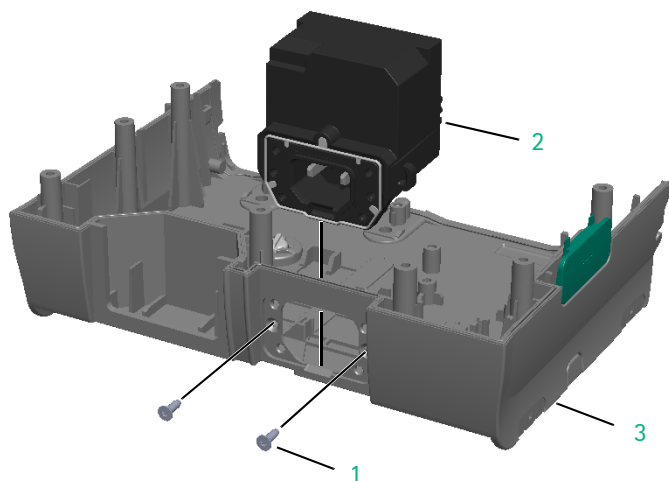

Fig. 3 - 44
2. Remove the power supply (Fig. 3 - 44 / Item 2).